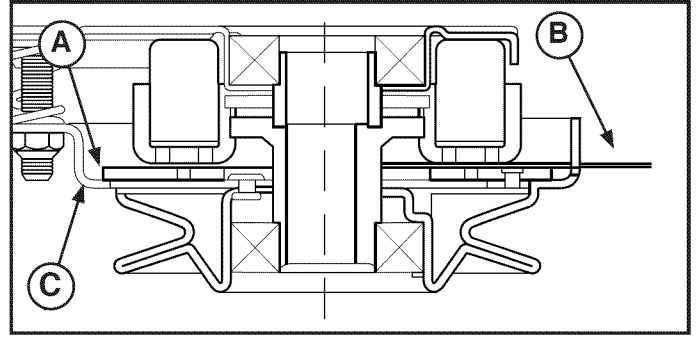

Figure 23
3. Insert a 0.012 - 0.015 in. (0,30 - 0,38 mm) feeler gauge (C) through each window, positioning the gauge between the rotor face and the armature face as shown in Figure 23.